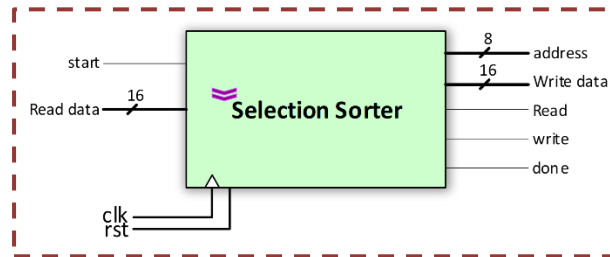

Figure 1: Top view of Selection Sorter Circuit
You are to design a sorter circuit that uses the selection sort algorithm to sort a block of 256 16-bit unsigned words in an ascending order. Figure 1 shows the top-view specification of the selection sorter circuit (SSC). Data collected becomes available in a memory buffer between the wrapper and the SSC. The memory buffer has read and write signals for its read and write operations. A wrapper sitting next to our processing element (PE), sorter circuit, is responsible for collecting data and informing our PE that data collection is completed and sorting can start. This is done by the wrapper issuing a complete positive pulse on the *start* signal. When sorting is completed, the SSC issues a complete positive pulse on its *done* signal.